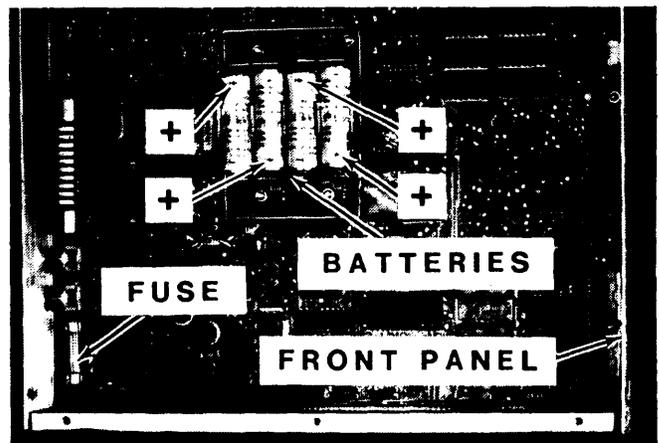
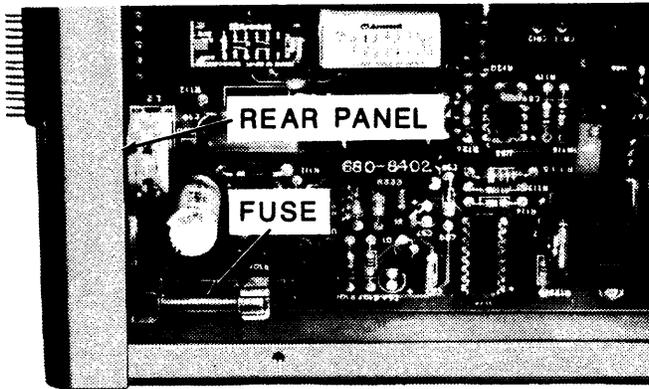

Fig. 1 - Fuse and Battery Locations in Control Processor Chassis
Fig. 2 - Fuse Location in Multi-Channel Chassis
2.02 Fuse F1 of the C.P. Chassis is located at the corner of the main circuit board, as shown in figure 1. Fuse F1 of the M.C. Chassis is located at the corner of the circuit board, as shown in figure 2. In both cases, the fuse is installed in a clip type fuse holder, and should be replaced with a one-ampere 3AG type fuse, Cook Electric Part No. 752-5872-019.
2.03 In models with Battery Backup of Message option, the C.P. Chassis contains four rechargeable cells located on a small circuit board, mounted on stand-offs attached to the main circuit board. The battery pack location is shown in figure 1.